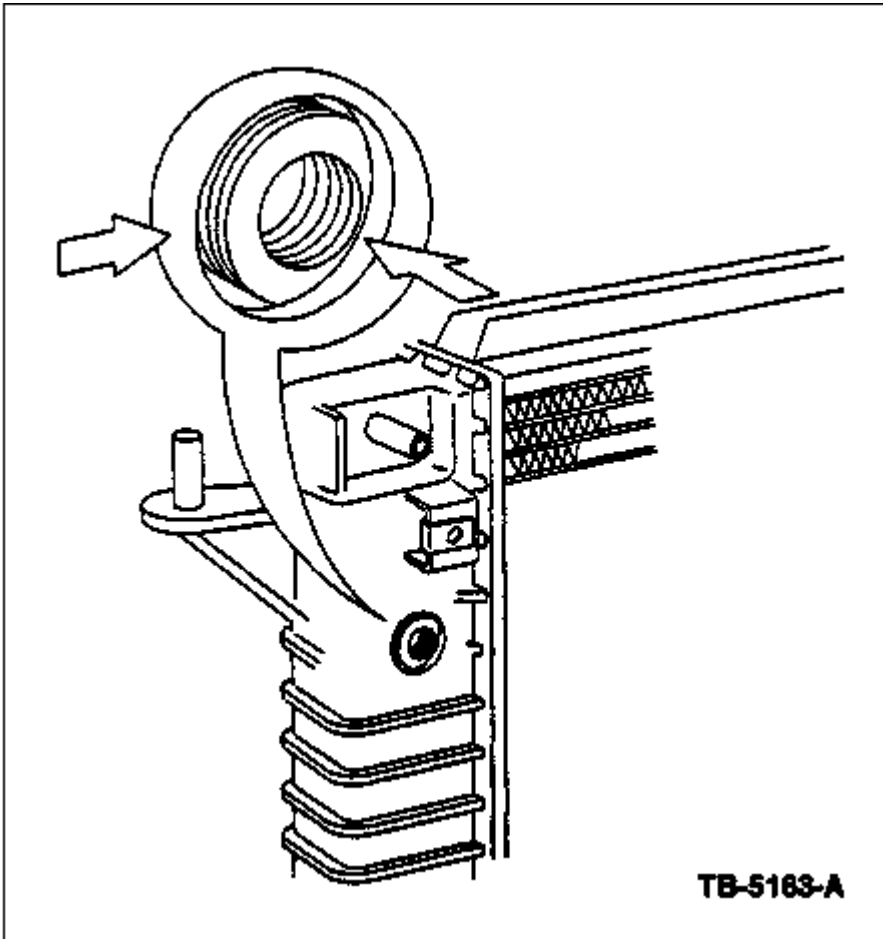

Figure 3 - Article 97-17-16
7. Push down on the transmission oil cooler and slide to the side under the lip of the end tank (Figure 3).